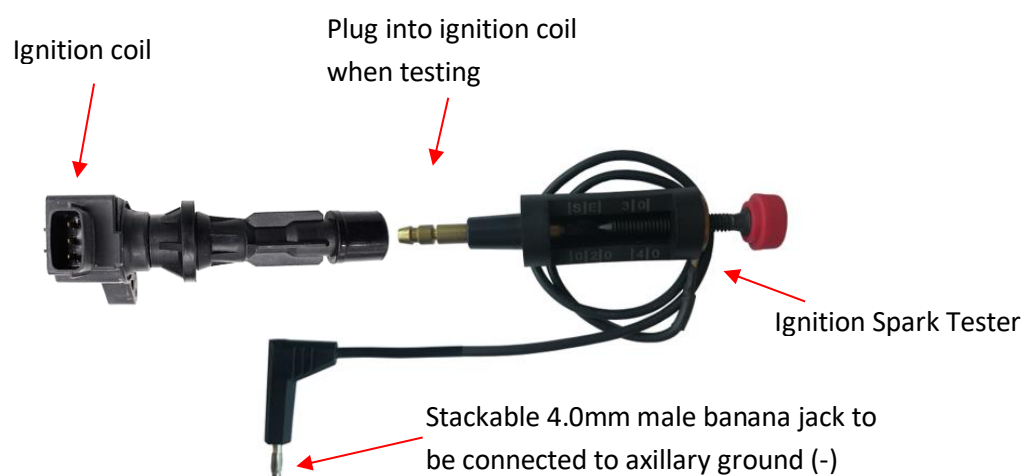

Fig. 2
3. After the suitable connecting terminal cable have been connected to the ignition coil, plug in the Ignition Spark Tester (Fig.2 below) into the ignition coil and ground it the auxiliary ground on tester negative (-) terminal and set the gap of the test plug to be at position 2 (about 10 mm gap distance).